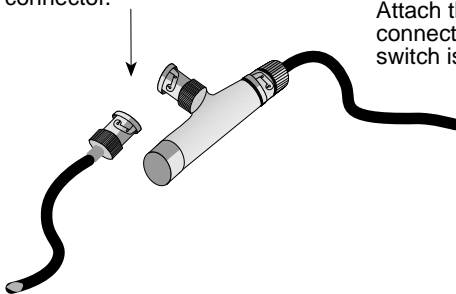

Figure 4-5. The EPIM-C
To connect a thin-net segment to an EPIM-C, refer to Figure 4-5 and perform the following steps:
2. If the Internal Termination switch is in the On position, connect the thin-net segment directly to the BNC port as shown in Figure 4-5.